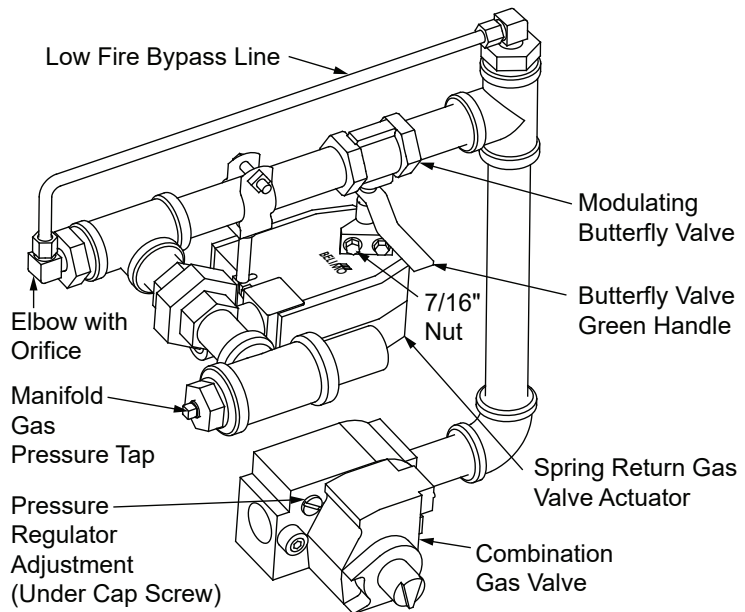

Figure 4 -
7. Check the modulation tracking by modulating the burner to 4 Volts DC signal. The manifold pressure should be approximately 0.8" to 0.9" W.C. If not, loosen the 7/16" nut on the Modulating Gas Valve Actuator and make necessary adjustment with the green handle of the butterfly valve (see Figure 4). Retighten the nuts and modulate the burner to low fire (2 Volts DC) and back up to 4 Volts DC again to check the adjustments. If the manifold pressure is not as specified, repeat step 7 again.